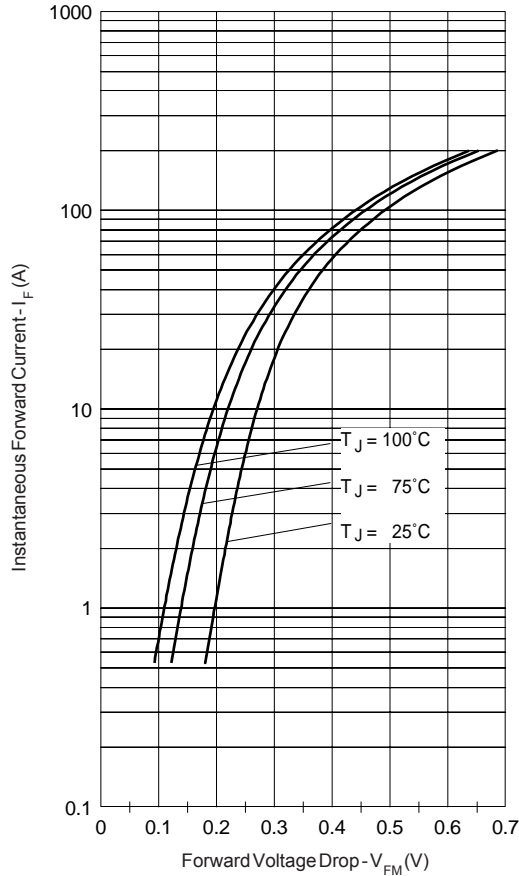

Fig. 1 - Max. Forward Voltage Drop Characteristics (Per Leg)
| $V_{FM}$ Max. Forward Voltage Drop (Per Leg) * See Fig. 1 (1)    | 0.36  | V                | @ 40A$T_J = 25^\circ\text{C}$                                       |